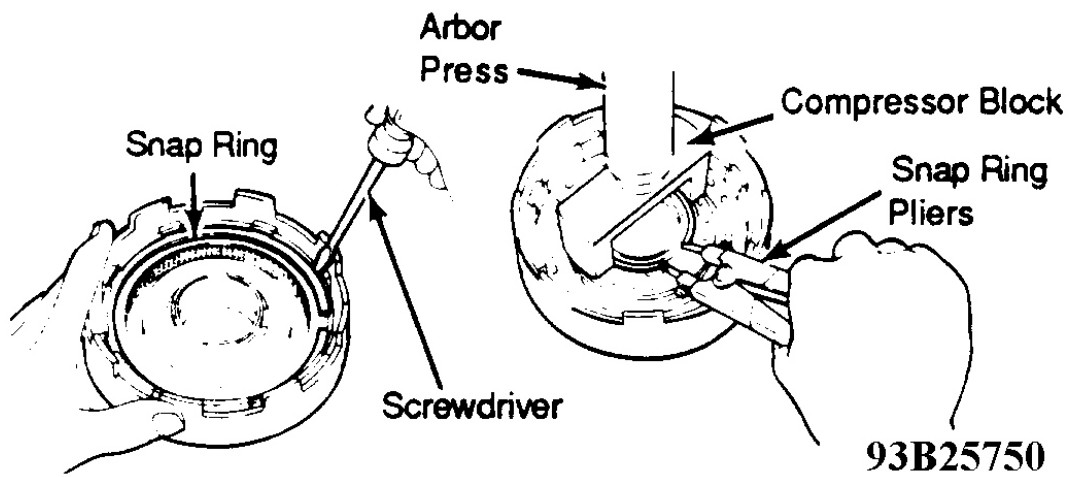

Fig. 19: Removing & Installing Direct Clutch
2. Remove snap ring from clutch drum. Remove flange, discs and plates. To compress piston return springs and remove snap ring, place Compressor Block (09351-32070) on spring retainer. Compress springs with an arbor press. See **Fig. 19**.
2. Using Compressor Block (09351-32070) and an arbor press, compress return springs. See **Fig. 19** . Using snap ring pliers, install snap ring in groove. Ensure end-gap of spring is not aligned with spring retainer claw.